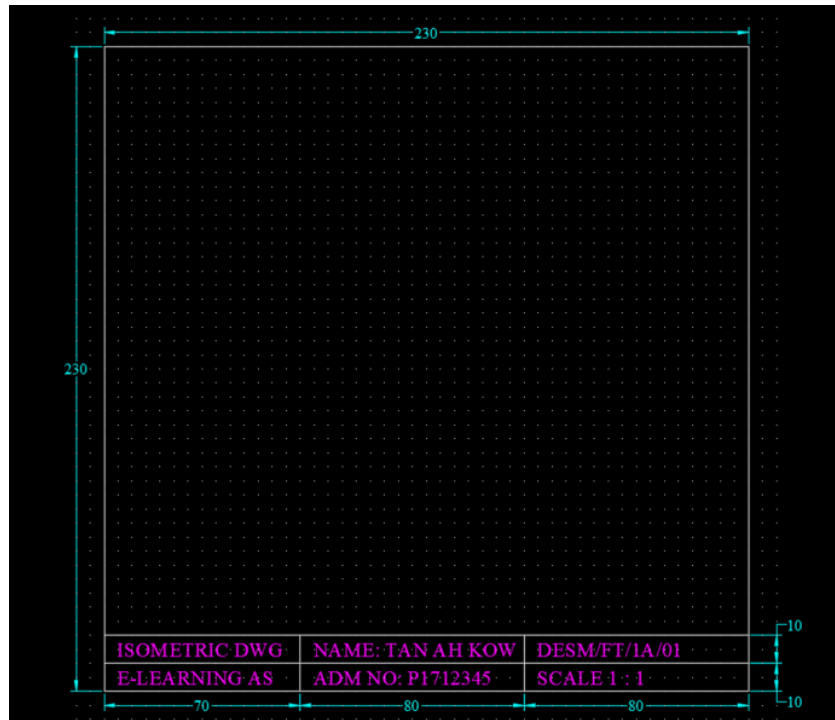

Fig 2
5. Next, fill up the title block with your Name, Admission Number, Class with rest as shown in FIG 2: